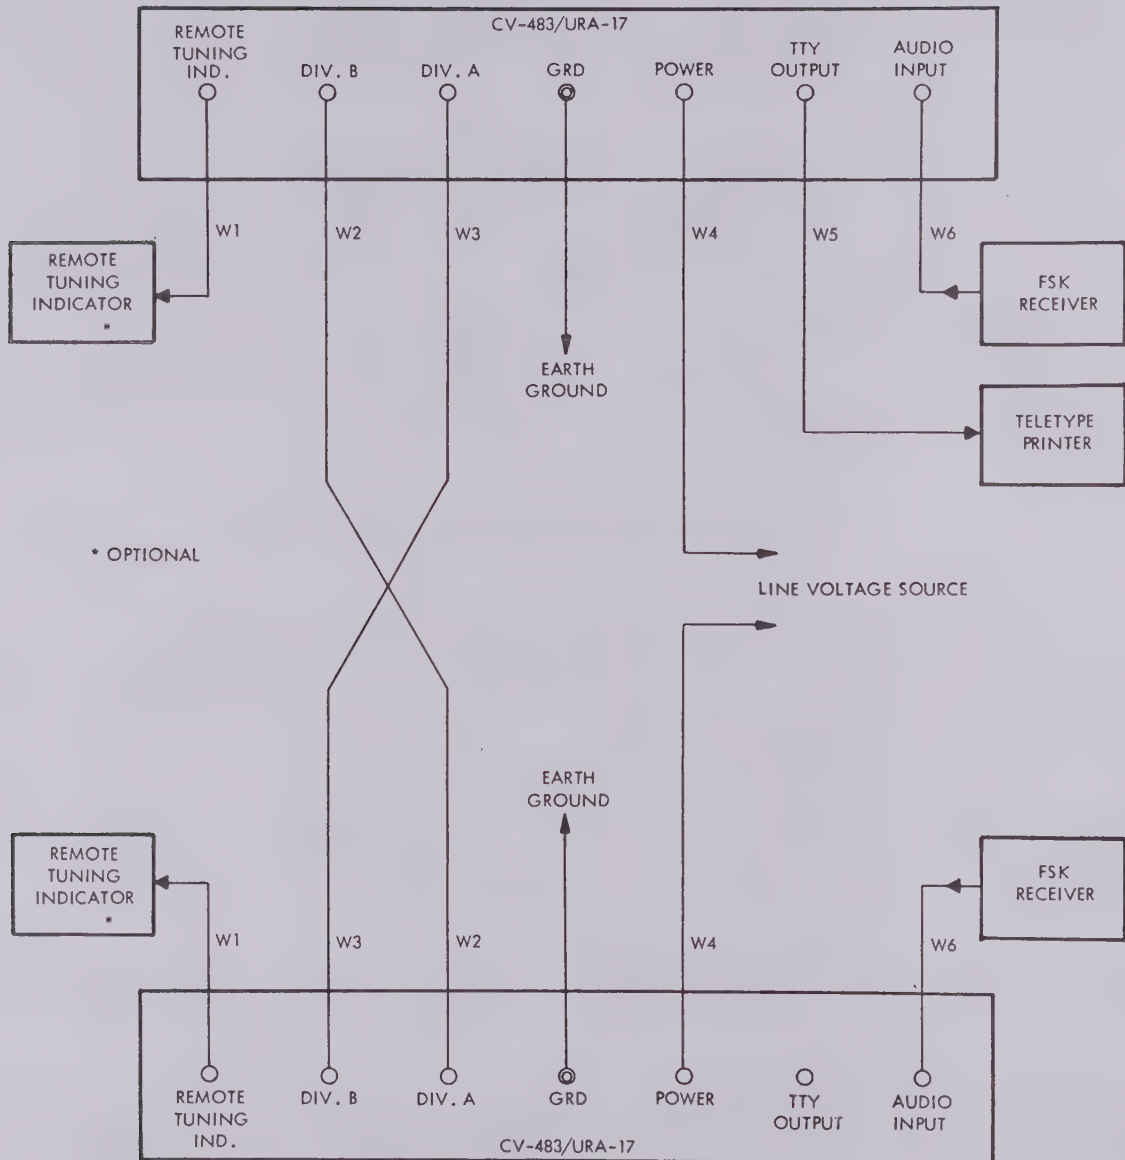

Figure 2-5. Comparator-Converter Group AN/URA-17,
VERSITY OPERATION. - Table 2-2 lists the required cable and connector information for diversity operation of the AN/URA-17. Figure 2-5 illustrates the interconnection to associated equipment.
* Use in conjunction with figure 2-5.
- Step 10. Slide extension (4) over pigtail and screw it on shell (5).
- Step 11. Screw cable clamp (1) on extension and